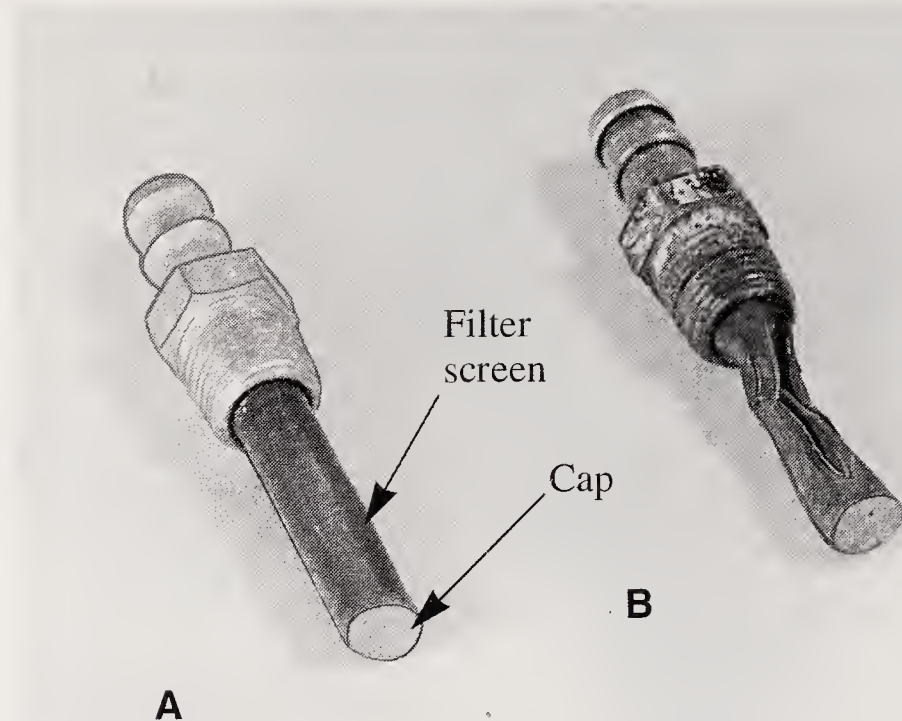

Figure 13-3. Damaged gas tank filter can block fuel flow. A—New filter. B—Filter damaged when gasoline can nozzle was inserted too far into fuel tank.
When fuel pump problems are suspected, make sure that the fuel flow from the supply tank to the pump is not interrupted. **Figure 13-3** shows a filter that allowed the engine to start and idle, but caused the engine to stall whenever the throttle was opened. A replacement filter (A) solved the problem. Varnish from stale gasoline can impede flow through filter screens.